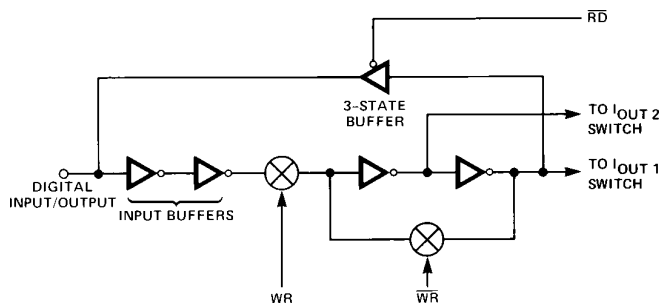

Figure 5. Digital Input/Output Structure
Figure 5 shows the digital input/output structure for one bit. The digital WR,  $\overline{WR}$ , and  $\overline{RD}$  controls shown in the figure are internally generated from the external  $A/\overline{B}$ ,  $R/\overline{W}$ ,  $\overline{DS1}$ , and  $\overline{DS2}$  signals. The combination of these signals decide which DAC is selected. The digital inputs are CMOS inverters, designed such that TTL input levels (2.4 V and 0.8 V) are converted into CMOS logic levels. When the digital input is in the region of 1.2 V to 1.8 V, the input stages operate in their linear region and draw current from the +5 V supply (see Typical Supply Current vs. Logic Level curve on page 6). It is recommended that the digital input voltages be as close to  $V_{DD}$  and DGND as is practical in order to minimize supply currents. This allows maximum savings in power dissipation inherent with CMOS devices. The three-state readback digital output drivers (in the active mode) provide TTL-compatible digital outputs with a fan-out of one TTL load. The three state digital readback leakage-current is typically 5 nA.
**General Ground Management:** AC or transient voltages between AGND and DGND can appear as noise at the DAC8408's analog output. Note that in Figures 5 and 6,  $I_{OUT2A}/I_{OUT2B}$  and  $I_{OUT2C}/I_{OUT2D}$  are connected to AGND. Therefore, it is recommended that AGND and DGND be tied together at the DAC8408 socket. In systems where AGND and DGND are tied together on the backplane, two diodes (1N914 or equivalent) should be connected in inverse parallel between AGND and DGND.